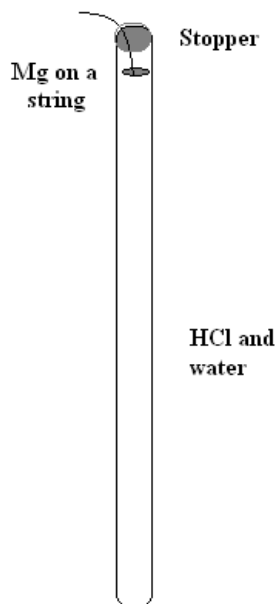
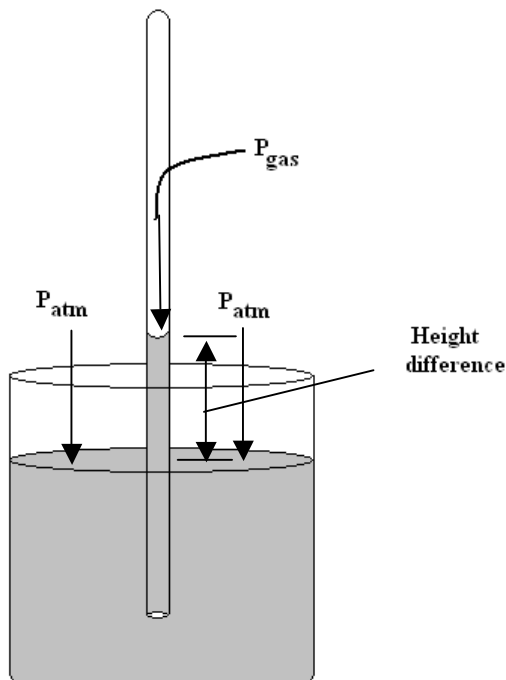

Figure 1. Gas buret filled with HCl and water before inversion and reaction. Mg is tied to a string and held in place by a stopper.
Figure 2. Gas apparatus after inversion and reaction.
The experimental set-up you will be using is shown in Figure 1, before the magnesium and HCl have reacted, and in Figure 2 after their reaction. It is easy to measure the temperature (T) and volume (V) of the hydrogen gas that is produced. Determination of the pressure, however, is a bit more complicated and involves careful attention to units. You will collect the hydrogen gas over water. Because water has an appreciable vapor pressure, the volume occupied by the hydrogen gas also contains gaseous water molecules. The total pressure of the gas is the sum of the pressures due to hydrogen and to water: $P_{\text{gas}} = P_{\text{hydrogen}} + P_{\text{water vapor}}$. The water vapor pressure $P_{\text{water vapor}}$ depends upon its temperature as shown in Figure 3. To determine P_{hydrogen} you will have to correct the total gas pressure P_{gas} for the presence of water vapor.
A diagram of the experimental system shown in Figure 2 is useful in finding P_{gas} . There is a vertical tube which is closed at the top and which contains both hydrogen gas and water vapor. The tube is immersed in a beaker of water, and some of the water has risen part way into the tube. There are several different pressures involved. Atmospheric pressure P_{atm} (from the air) pushes down onto the water on the surface of the beaker. Gas pressure P_{gas} (from the hydrogen and water gases in the tube) pushes down on the column of water in the tube. In addition, there is a pressure on the water surface due to the weight of the water column in the tube above the level of the water in the beaker. This pressure, which increases with the height difference between the two levels, is $P_{\text{height difference}}$. Because of the way fluids behave, P_{atm} at the level of the water on the surface of the beaker is equal to the pressure in the tube at this level. Thus
In this experiment, you will use a barometer to measure the atmospheric pressure P_{atm} and use a ruler to measure the height difference between the water in the beaker and the water in the tube as shown in Figure 2. $P_{\text{height difference}}$ depends on the mass of the water in the column. Because the density of Hg is 13.6 times the density of water, a column of water would be 13.6 times higher than a column of Hg of the same weight. Thus the pressure that is due to 1 mm Hg is equal to the pressure due to 13.6 mm of water. (13.6 mm water = 1 mm Hg = 1 torr)
Holding onto the string, carefully place the metal so that it hangs several centimeters down into the gas buret as shown in Figure 1. Gently insert the stopper into the buret so that the stopper holds the string in place. Check to be sure that an air bubble has not formed at the stopper. If an air bubble is present, remove the stopper, add more distilled water and re-insert the stopper. Using your distilled water bottle, fill the holes of the stopper with distilled water. Invert the gas buret into the beaker so that the top of the buret is below the water level in the beaker. Clamp the buret in place and allow the reaction to proceed. The more dense hydrochloric acid solution will diffuse downward and react with the metal to produce hydrogen gas. Note your observations which show that a reaction is occurring.
When the reaction is complete, read the volume of gas in the buret to the nearest ± 0.02 mL. Then measure the height difference between the water in the beaker and the solution in the buret, as shown in Figure 2. This can be done in millimeters using a lab ruler. Measure the temperature of the solution in the beaker, which is equal to the temperature of the gas.